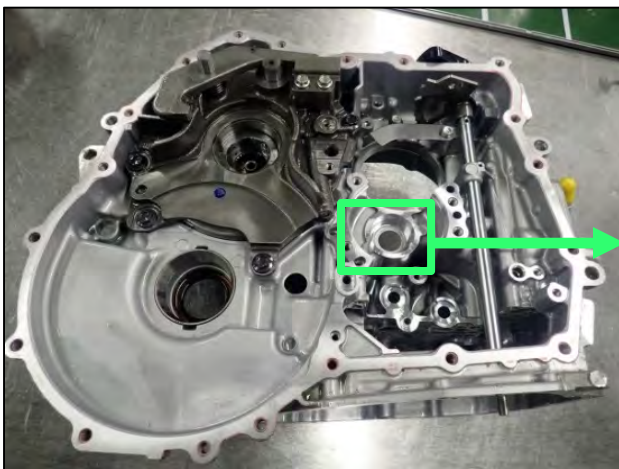
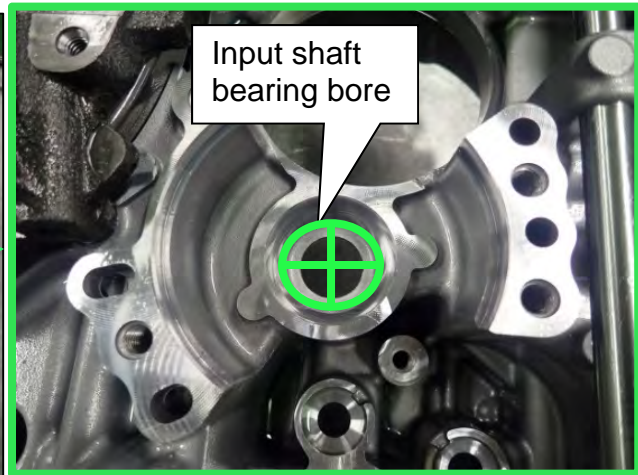

Figure 118
Figure 119
93. Clean the input shaft bearing bore area (Figure 118 and Figure 119).